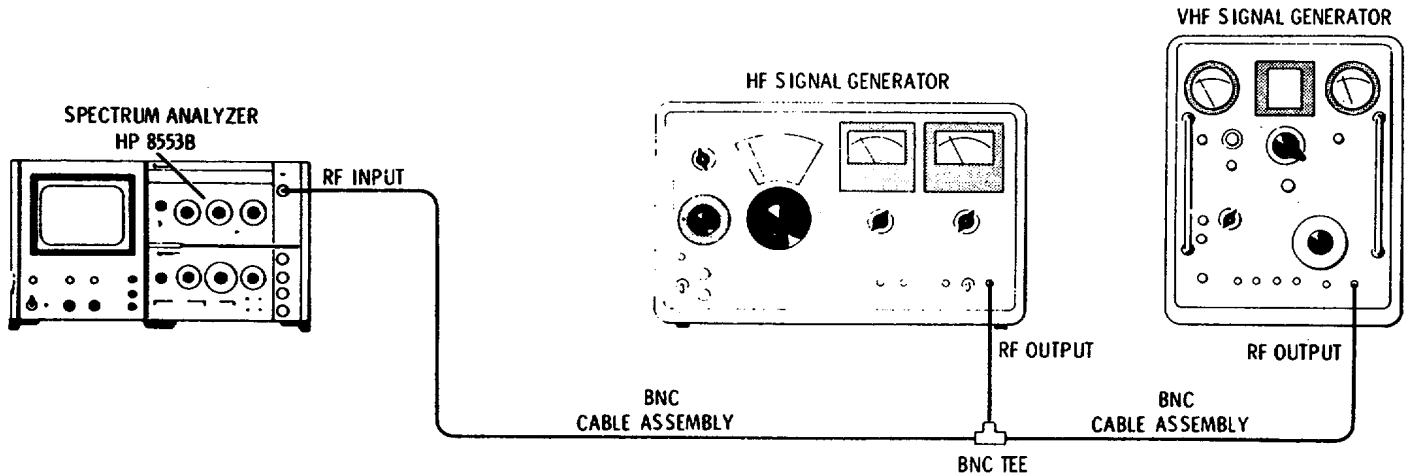

Figure 7-2. Intermodulation Distortion Test.
1. Connect the test setup shown in Figure 7-2 and make the following control settings: